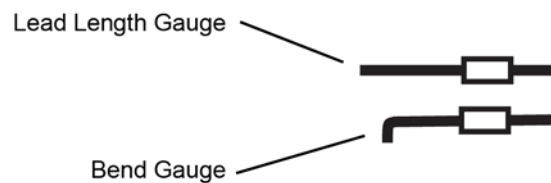

Figure 61 Trim Gauge
- a Place a resistor over the lead length gauge shown in **Figure 61**. Trim the leads to match the drawing. The orientation of the lead is not important.